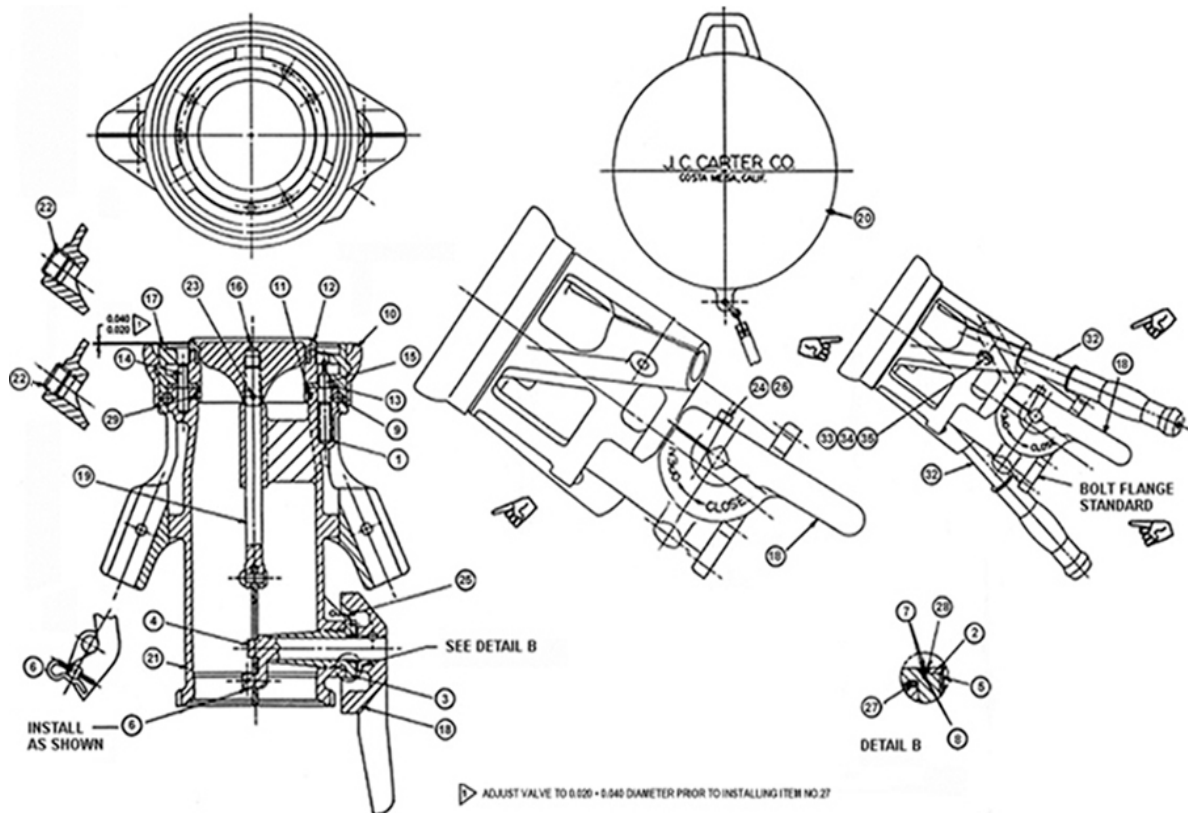

Figure 4-2. J.C. Carter single-point nozzle.
One of our jobs is to periodically repair the single-point nozzles used to fill trucks and aircraft. As with all repair jobs, it gets easier the more often you do it. To disassemble a single-point nozzle (fig. 4-2), remove the nozzle from the end of the hose at the quick disconnect. Remove the six screws and six washers to permit the removal of the swivel adapter. Remove the cover assembly (20) from the nozzle. Remove the collar bumper (10). Push at one end of the collar bearing (9) to cause the other end to protrude from the groove. Using pliers, pull the collar bearing out of the groove. Remove the nozzle collar (17) from the body assembly (21) by aligning the groove in the collar. Turn the crank handle (18) to open the valve (16). Remove the cotter pin (23) and unscrew the valve (16) from the shaft assembly (19). You may now remove the nozzle seal assembly (12). Remove the snap ring (11) from the seal (12). Take off the plate (13).